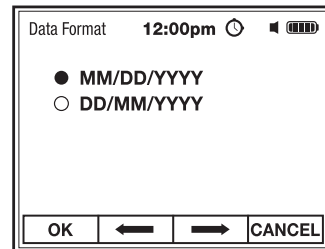

Fig. 26
2. Use the **F2** ⇐ and **F3** ⇐ soft keys to select Month/Day/Year or Day/Month/Year (Fig. 26).
3. Press the **F1 OK** soft key to save setting and return to Date/Time Menu (Fig. 26).